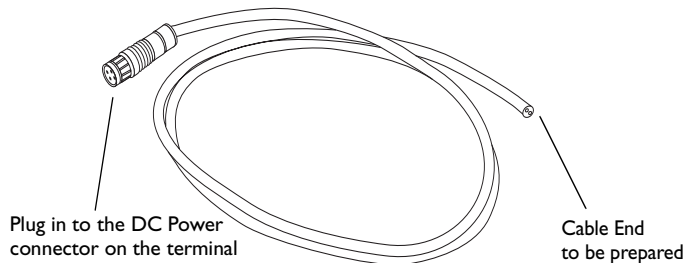

Figure 6. Preparing the External DC Power Cable
2. Prepare the External DC power cable. One end of the power cable fits into the terminal's DC Power connector. The other end has no connector (see Figure 6).